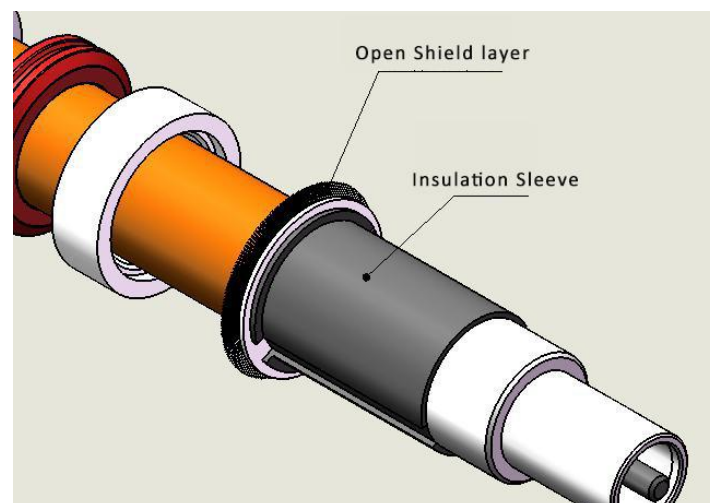

Fig. 10
4.1.4. The shielding line should be protruded 2-3mm, and then the excess shielding line should be subtracted, as shown in Figure 10.